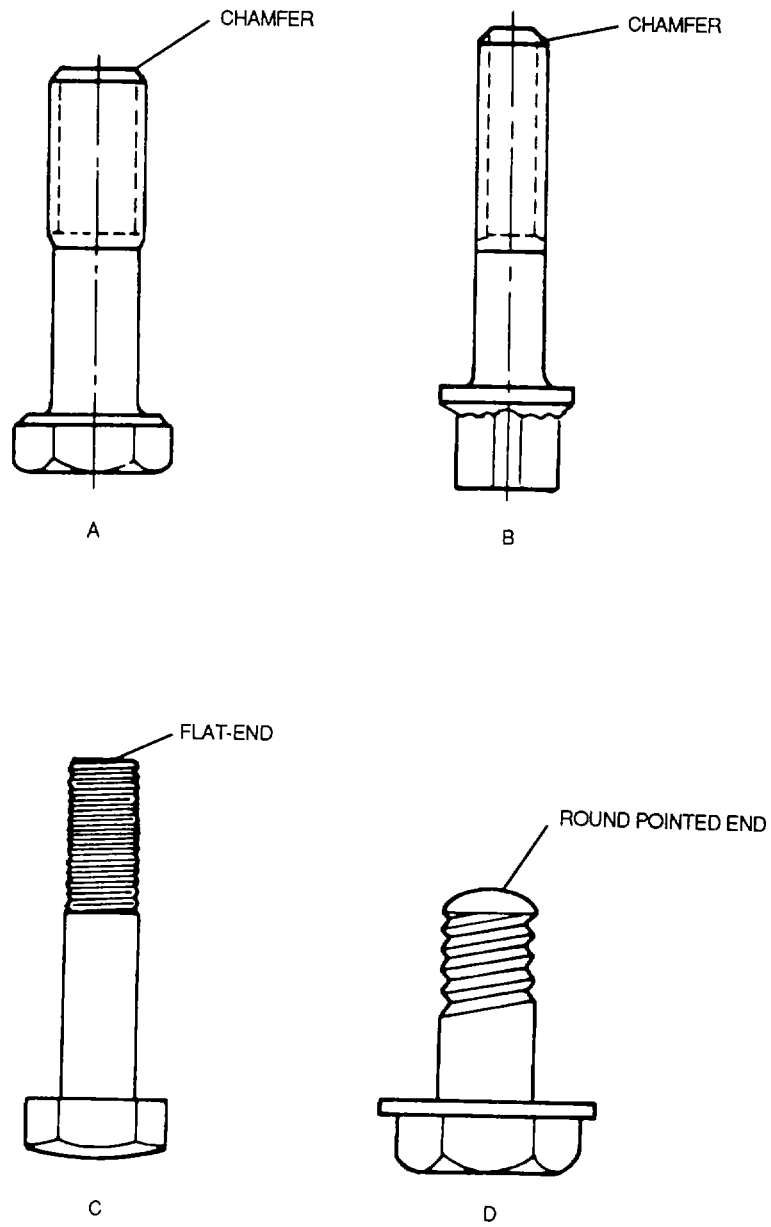

Figure 2-1. Bolt-End Description
*b. Installation and End Description.* Whenever possible, bolts should be installed with the bolt head up, outboard or forward to prevent the bolt from falling out, should the nut come loose. On rotating controls, heads should be installed in the direction of rotation, except where interference occurs. The shape of the bolt ends varies as shown in figure 2-1. Bolts A and B show varied chamfer angles, bolt C shows a flat end, and bolt D a round or pointed end.